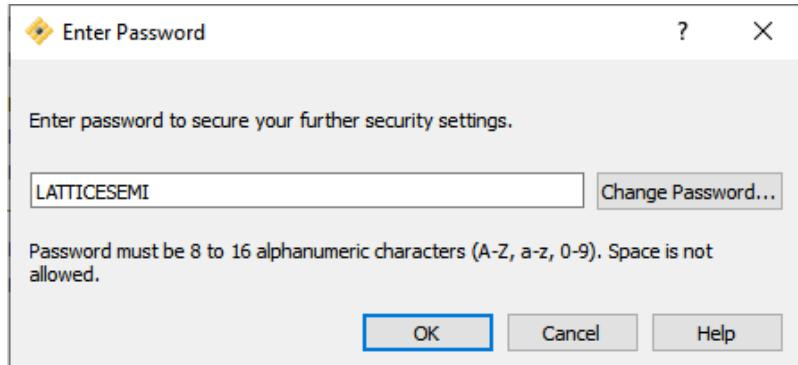

Figure 3.2. Enter the Password
3. Enter the password as shown in Figure 3.2. The default password to get to the Security Setting menu is **LATTICESEMI**. You may change the password if you wish. This password controls access to the key generation area in the Lattice Diamond tool.